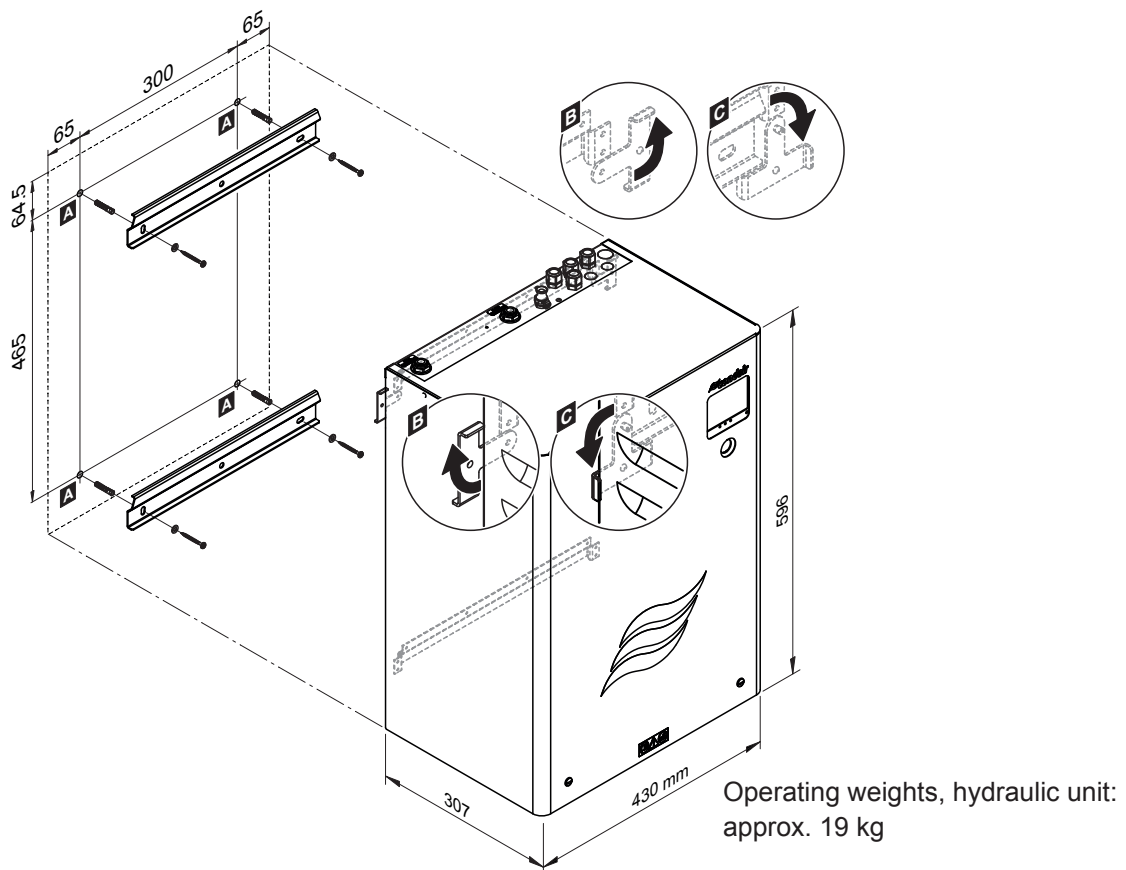

Fig. 15: Installation of the hydraulic unit (dimensions in mm)
3. Turn the locking tabs outwards on both sides of the hydraulic unit (open position, see *Detail "B"* in *Fig. 15*).
4. Hook the hydraulic unit into the wall brackets. Then turn the two locking tabs on the rear panel of the hydraulic unit inwards (closed position, see *Detail "C"* in *Fig. 15*) to secure the hydraulic unit to the top wall bracket.